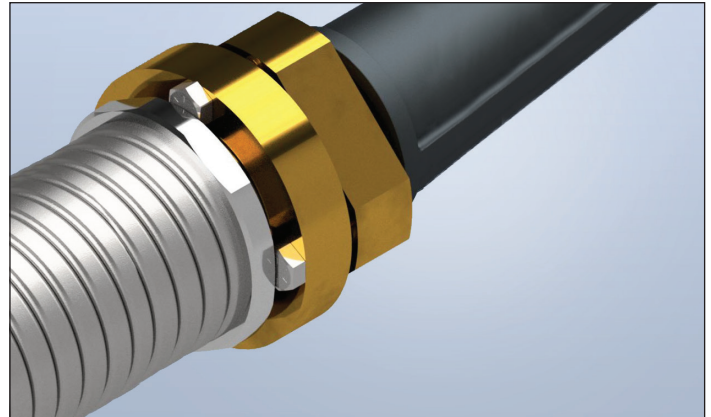

Figure: 1-13
8. Thread floppy conduit onto Floppy Conduit Adapter until it stops. This will secure the floppy conduit to the fitting (Figure 1-13). **NO additional fastening or adhesives required!**